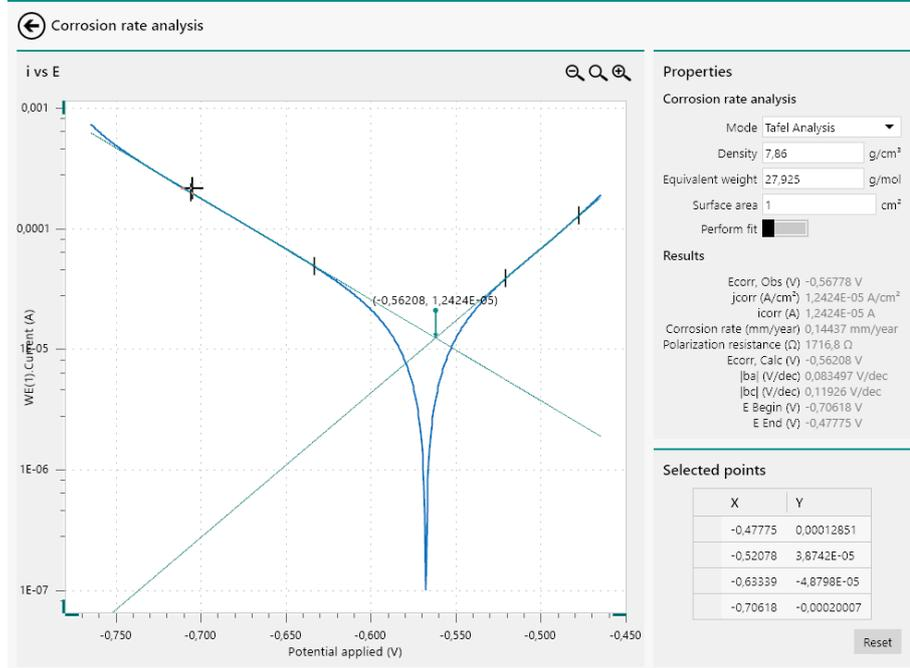

Figure 980 The two slopes are used to determine the corrosion rate
The same can be done for the cathodic branch. When the two points are defined, the cathodic Tafel slope is plotted and the intercept of both lines is used to determine the corrosion potential, the exchange current and current density, the polarization resistance and the corrosion rate (see figure 980, page 800).
1. **Perform fit off:** the command will perform the calculations of the command based on the location of the intercept. This will lead to an approximation of the corrosion data (see figure 980, page 800).